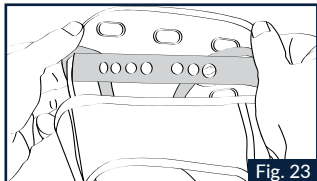

Fig. 23
1.1 Overturn one side of the upper part of the padding and unhook the front circular button from the underlying longitudinal plastic support with seven holes (Fig. 23).